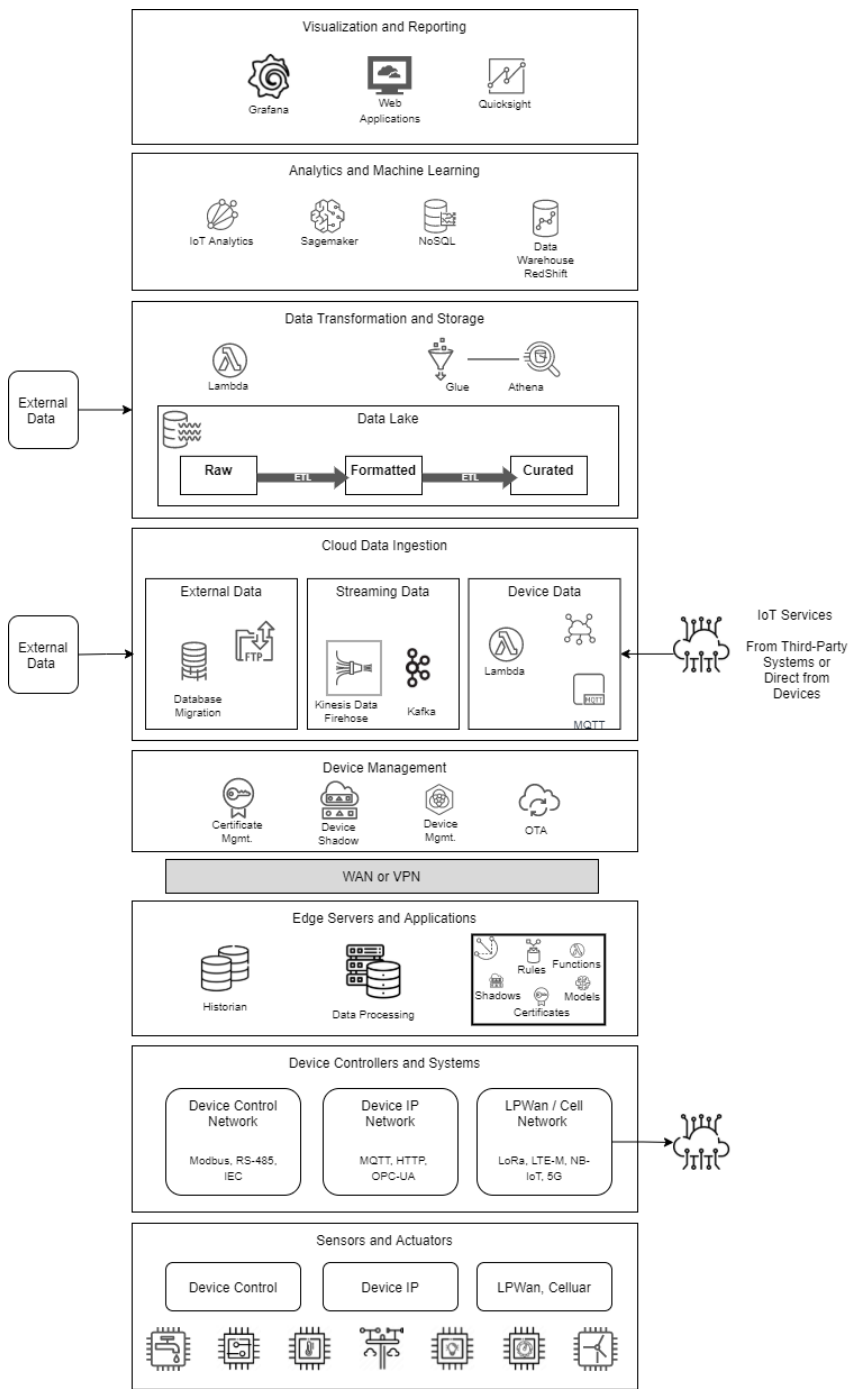

Figure 2.9 – Proposed strawman architecture
*Figure 2.9* outlines the complete strawman architecture. It is a lot to consider at once, but we have tried to keep it high-level and consumable for most people. We are only scratching the surface: